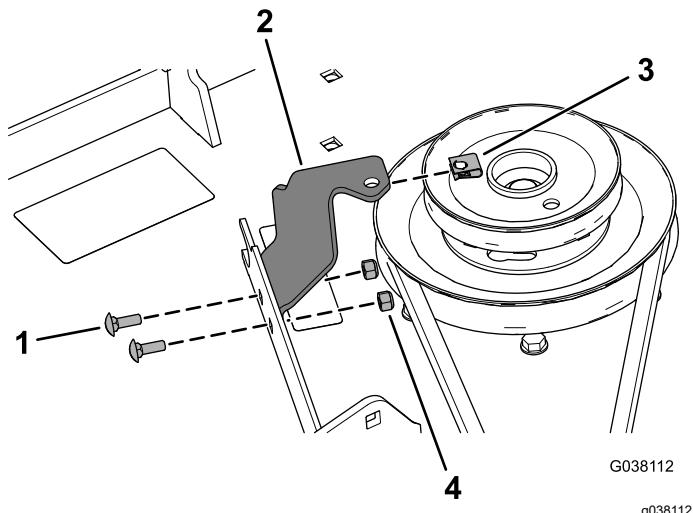

Figure 26
12. Install the belt-cover bracket to the mower deck using 2 carriage bolts (1/4 x 3/4 inch) and 2 locknuts (1/4 inch) as shown in Figure 26.
13. Install the speed nut onto the belt-cover bracket (Figure 26).